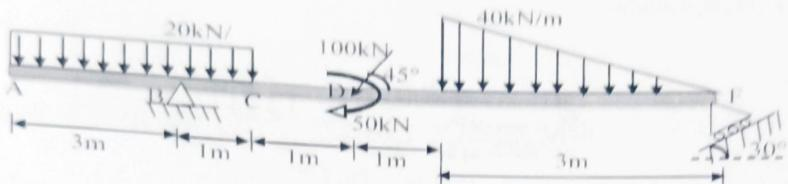

Fig 2.95
- 12) Find the support reactions for the beam loaded and supported as shown in fig. 2.95 (Ans: 192.43kN, 140.43kN, 140.56kN)